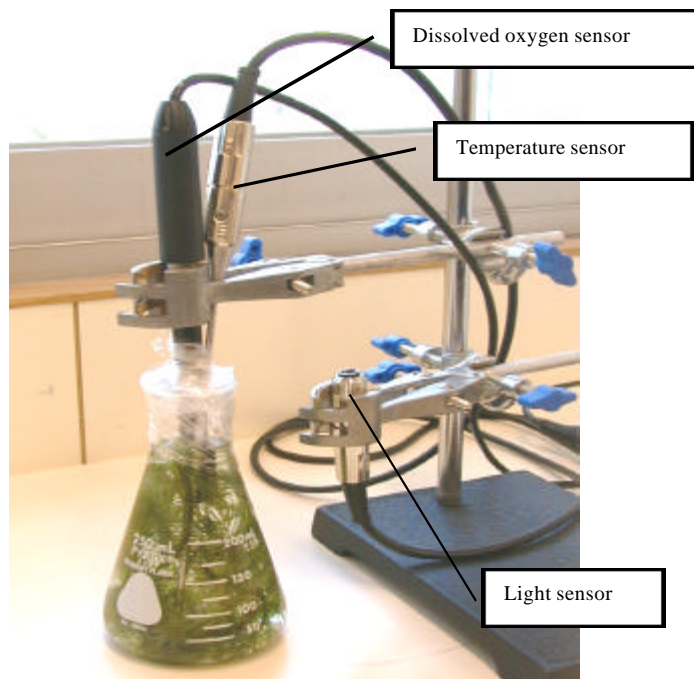

Fig.1 Experimental set up
5. Start the data logger to detect the changes in temperature, light intensity and dissolved oxygen content for a period of time (Fig.1).